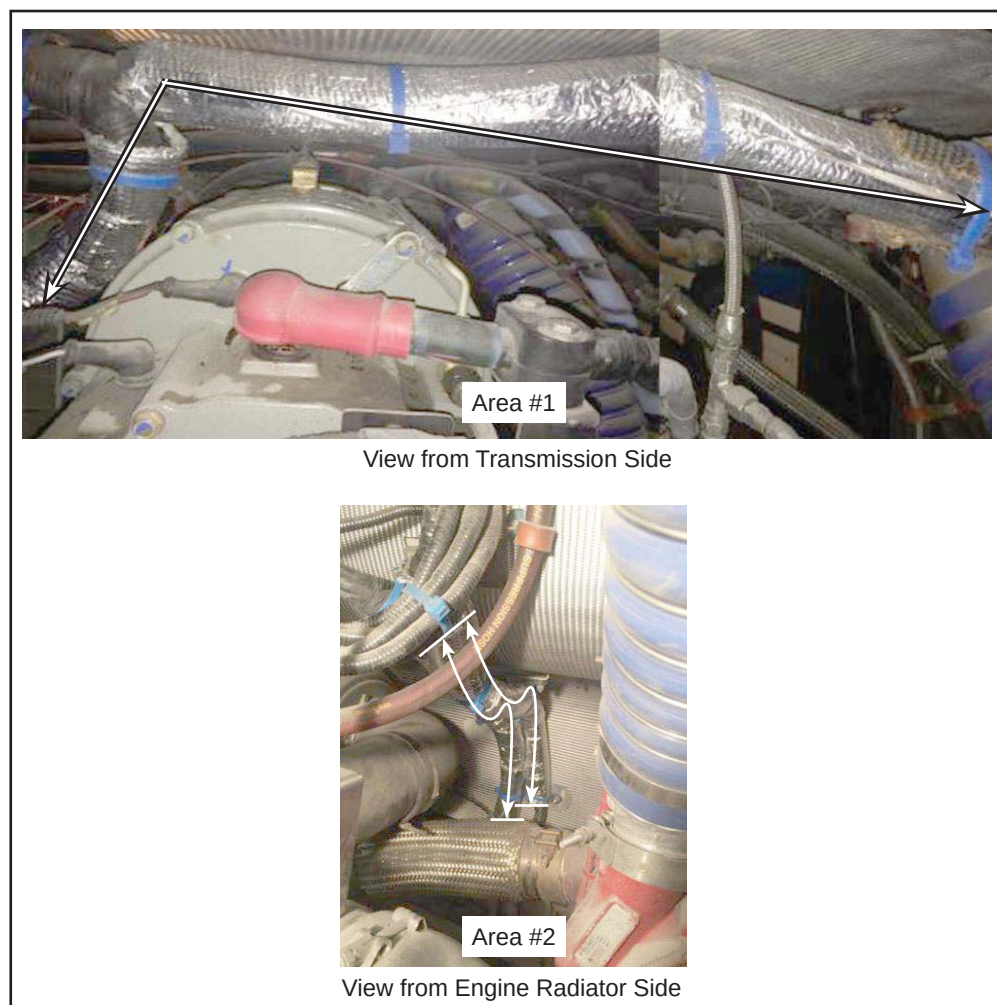

Figure 2 - Areas Where to Install the Heat Sleeves
- 1.10. Install an appropriate length of N74053-08 heat sleeve between the P-clamp locations. See Figure 2. Close the sleeves with the integrated self-adhesive.